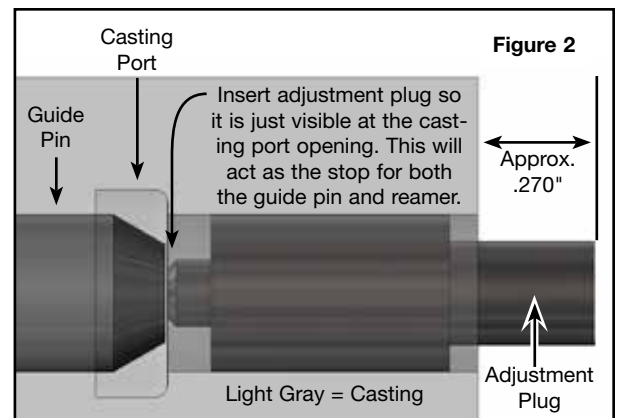

Figure 2
- d. Reinstall adjustment plug into empty bore, so the inboard nub is just visible at the casting port (**Figure 2**). The approximate measurement from casting face to the end of plug is .270". Hold in place with OE clip.